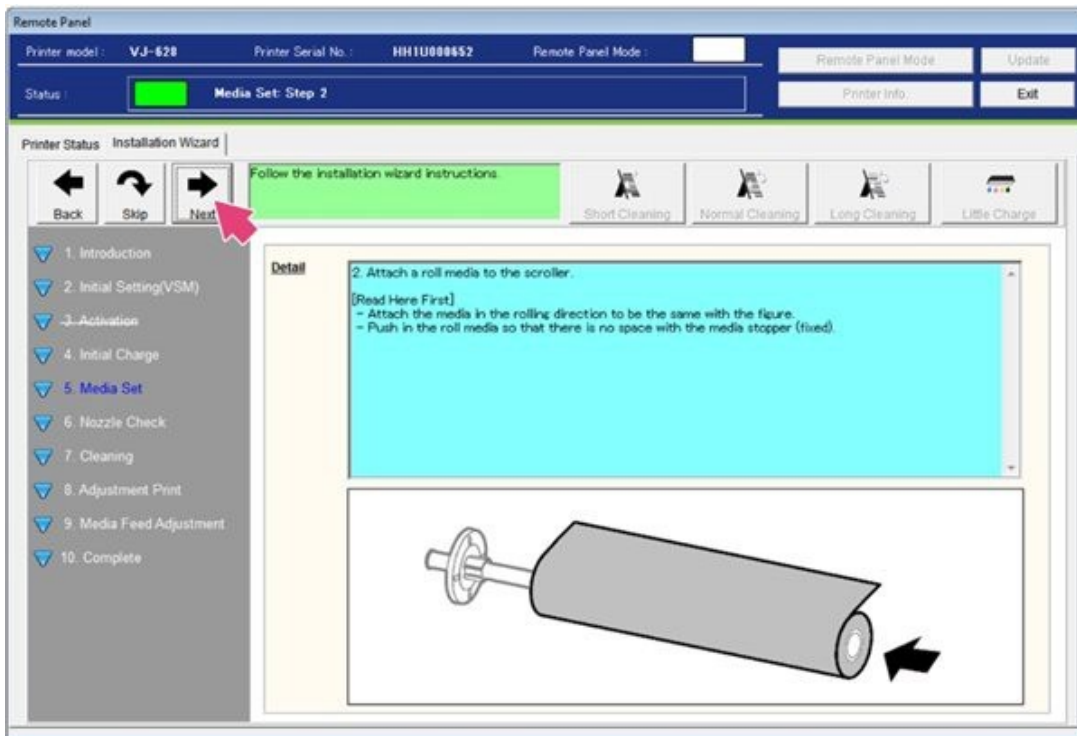

Figure 65
52. Attach a media roll to the scroller; then select **Next**. See Figure 65.